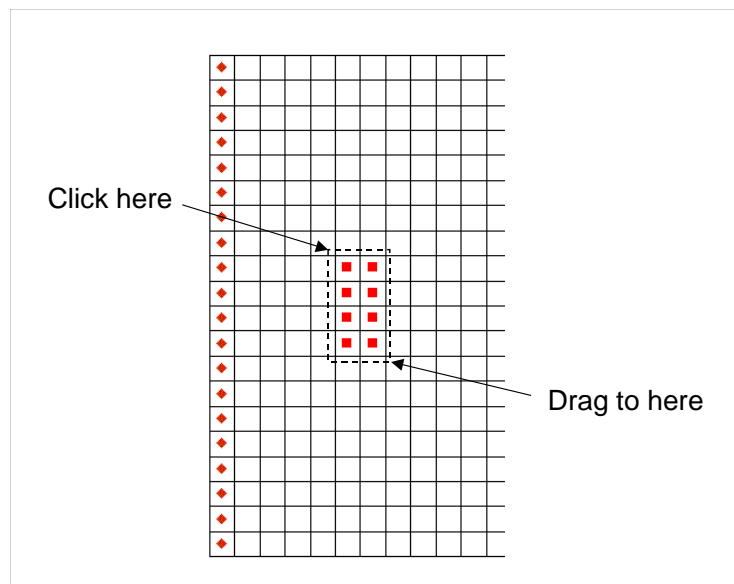

Figure 3 Selecting the cells defining the plume
- Drag a rectangle to select a 2x4 rectangular region of cells as shown in Figure 3. The currently selected cell represents the cell in the upper left corner of the grid of cells.